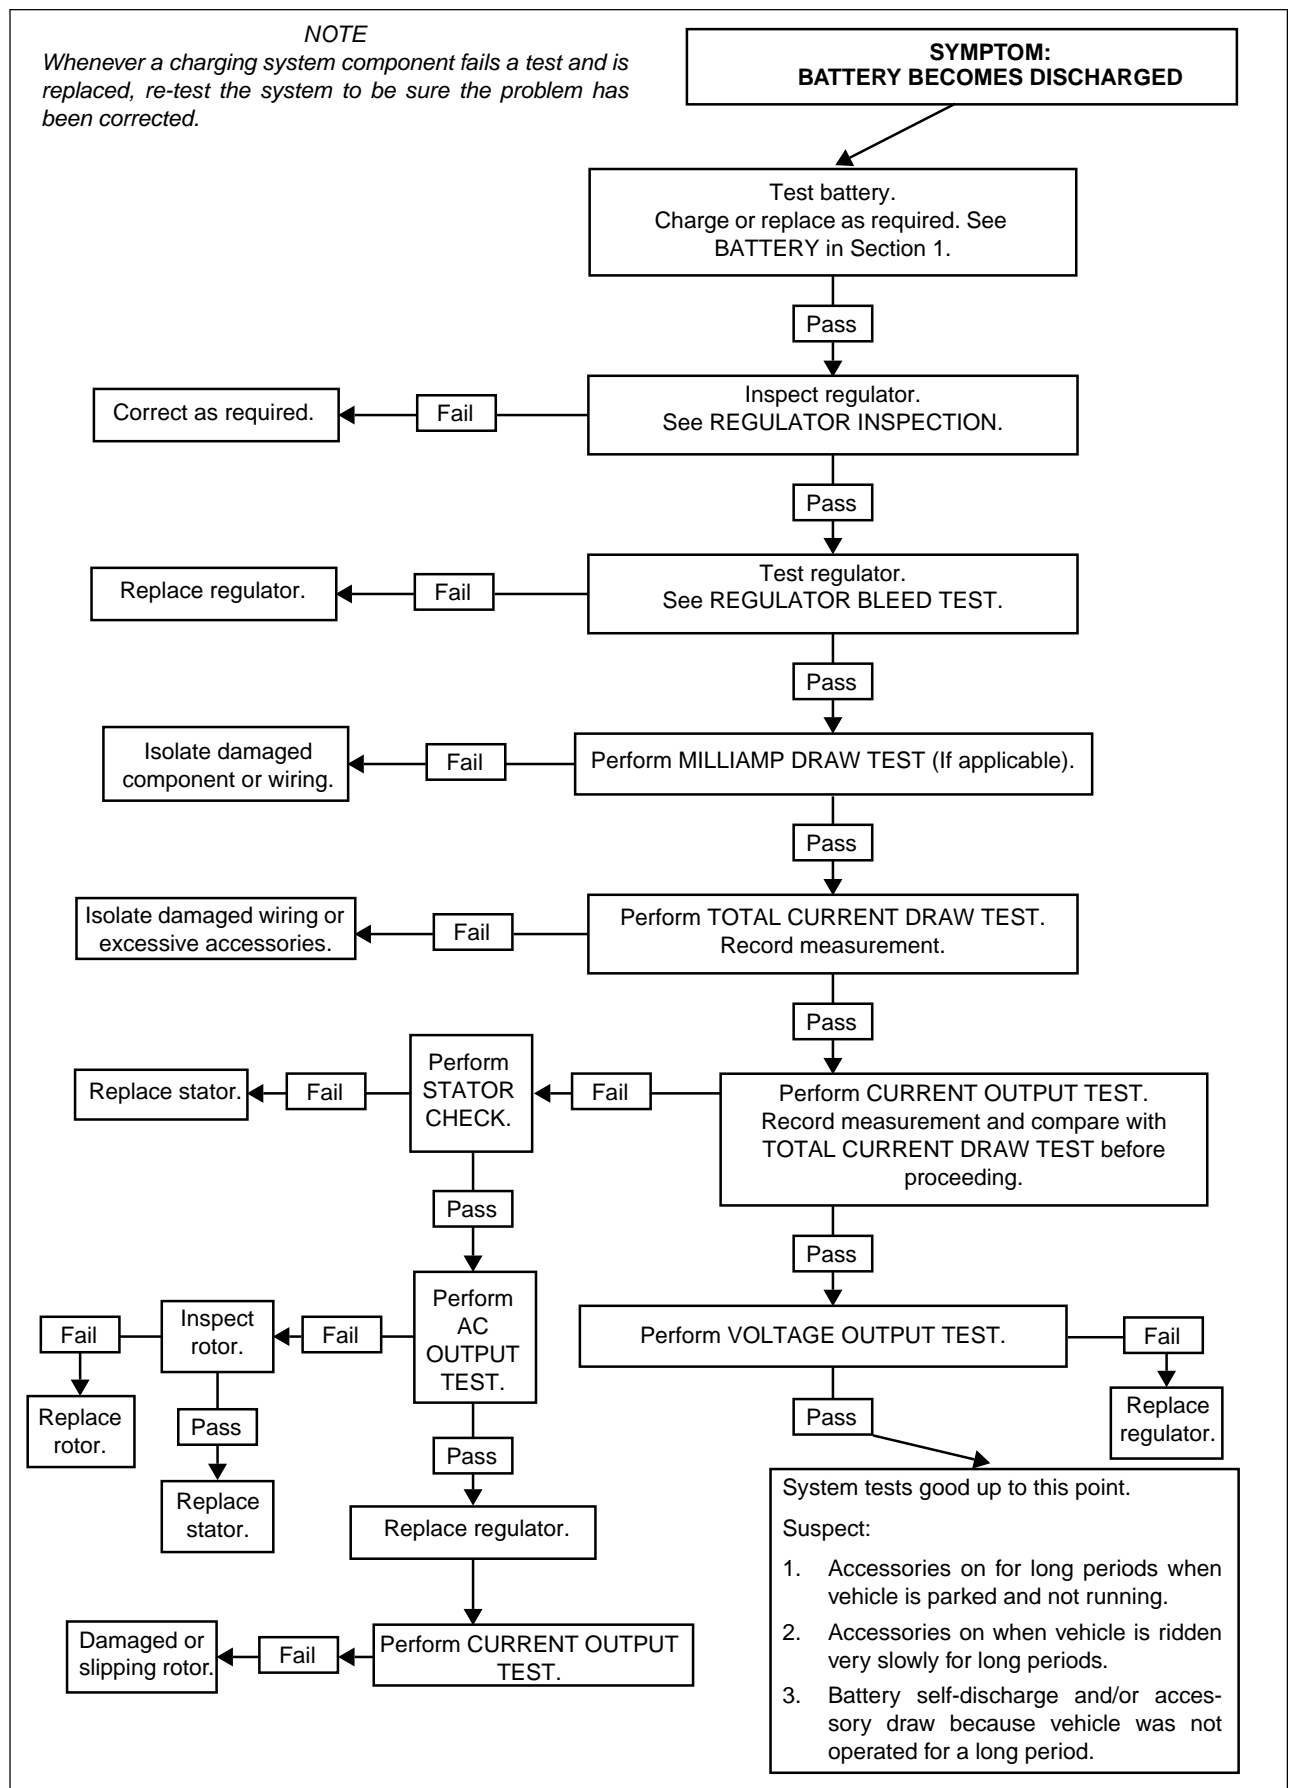

Figure 7-19. Charging System Troubleshooting
- a. If voltage to the battery is not more than 15 VDC, voltage output is within specifications. Investigate other possible problems. See Figure 7-19.